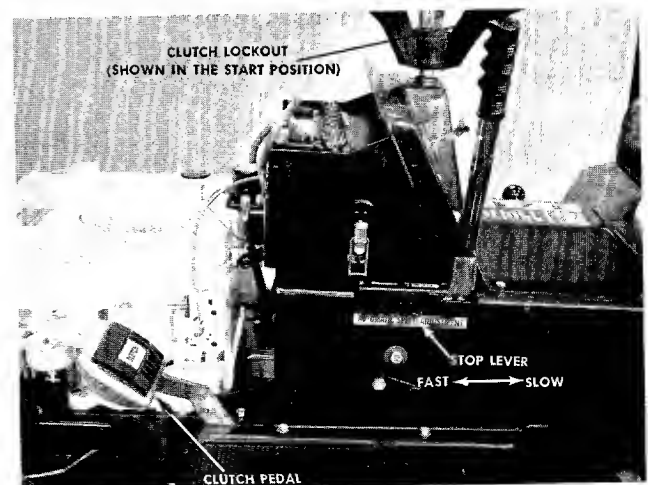

FIGURE 9. LEFT HAND CONTROLS
e. **Clutch Pedal.** The clutch pedal is used to disengage the drive mechanism. Depressing the clutch pedal at any time will slow you down or, if depressed all the way, will stop the mower. See figure 9.
f. **Clutch Lockout.** When the clutch pedal is depressed all the way it can be locked by placing the clutch lockout in the START position as shown in figure 9. The clutch lockout must be in this position before the engine will start.
g. **Stop Lever.** The stop lever allows you to regulate the maximum ground speed of the riding mower by setting the stop lever in any one of the five settings. The farther forward the stop lever is set, the faster your ground speed. See figure 9.
Step 2. Place the clutch lockout in the START position. See figure 9.
Step 3. Set the stop in the slow position. See figure 9.